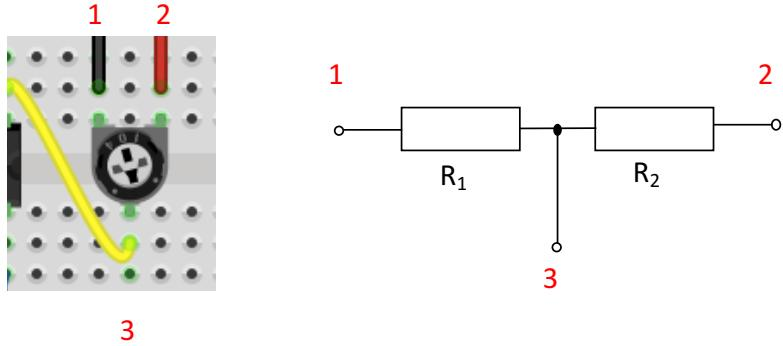

Figure 2: Breadboard potentiometer and its circuit diagram.
Find a breadboard potentiometer in the Lab component store. They look as shown on the left of Figure 2. Any value in the range $1\text{ k}\Omega$ to $1\text{ M}\Omega$ is suitable. Mount it in the breadboard and connect pin 1 (as shown on the right of Figure 2) to ground and pin 2 to 3.3 V i.e. Cobbler pin 1. Connect the COM (black) connection of a voltmeter to pin 1 and the other voltmeter terminal to pin 3. Use a “pot tweaking tool” to turn the wiper of the potentiometer and note the voltage reading as you turn: you should be able to vary the voltage smoothly from 0 V to 3.3 V.
4. AMPL button pushed IN and turned approximately to position shown in Figure 2
5. OFFSET ADJ turned slightly beyond centre as shown in Figure 2